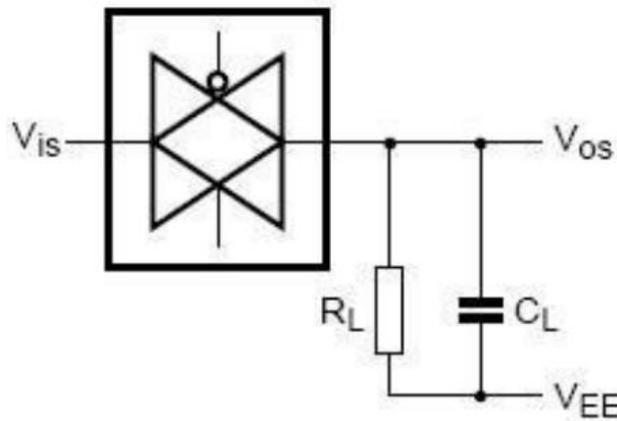

Figure 6. Square wave distortion degree of cut-off frequency and conduction frequency test pattern
| Square wave distortion | d_{sin} | see Figure 6; $R_L=10\text{k}\Omega$; $C_L=15\text{pF}$; channel ON; $f_i=1\text{kHz}$ | $V_{DD}=5\text{V}$ | 0.25 | - | - | % |
- (3) $R_L=1\text{k}\Omega$; $C_L=5\text{pF}$, channel off, $20\log V_{os}/V_{is}=-50\text{dB}$, see Figure 6.
- (4) $R_L=1\text{k}\Omega$; $C_L=5\text{pF}$, channel on, $20\log V_{os}/V_{is}=-3\text{dB}$, see Figure 6.